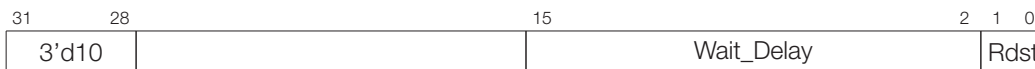

Figure 153: Instruction Type – TSENS
**Operand**    **Description** - see Figure 153